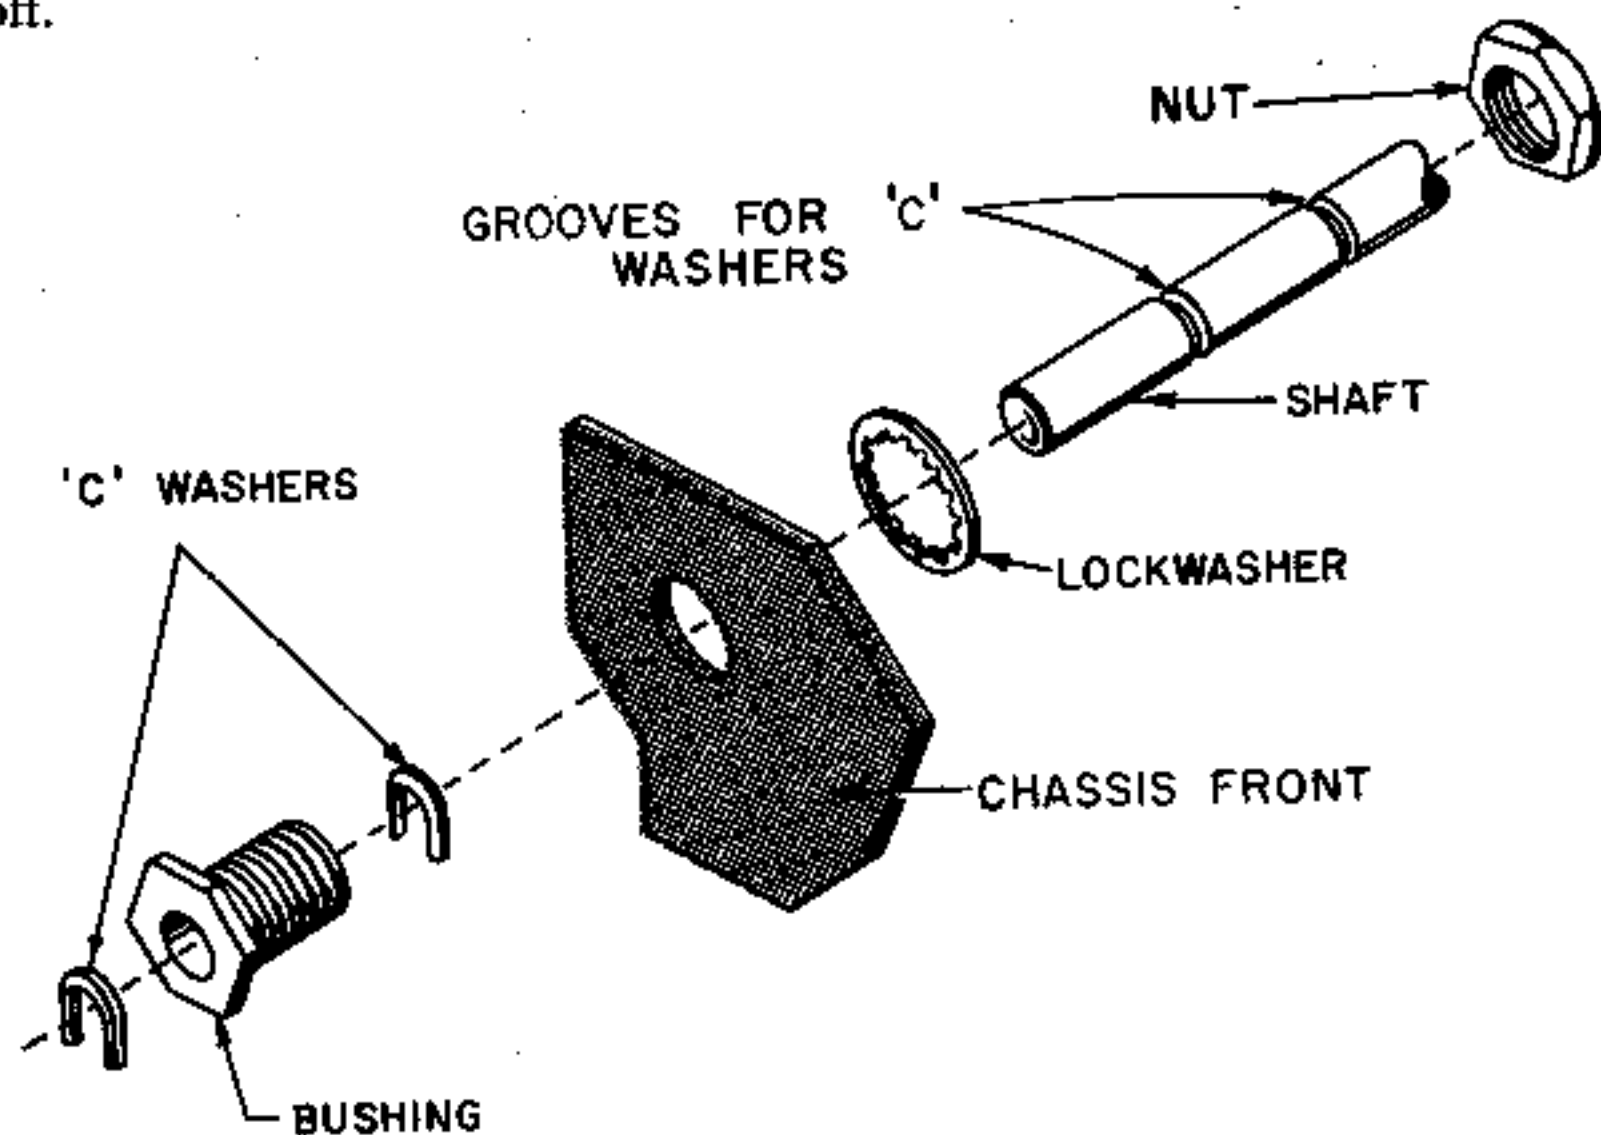

FIGURE 22. BANDSWITCH SHAFT ASSEMBLY
- Put the BANDSWITCH shaft assembly together as shown in Figure 22. After the "C" washers are in the grooves crimp them so they don't fall off.